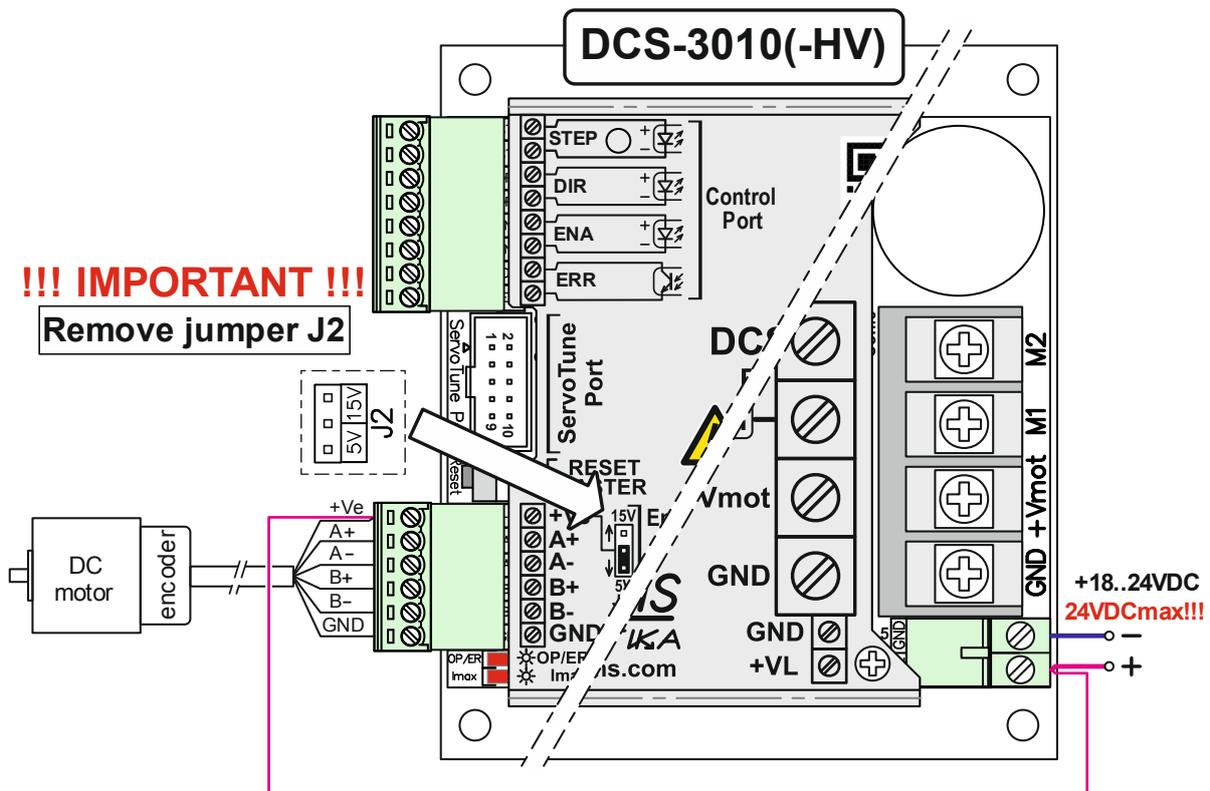

Figure 4.17 Connection of incremental encoder that requires a supply voltage higher than 15VDC
**IMPORTANT NOTE:** In case the incremental encoder is connected as shown in Figure 4.17, jumper J2 must be removed. Figure 4.16 gives the position of jumper J2. OTHERWISE, THE DCS1 DRIVER MAY BE PERMANENTLY DAMAGED. ALSO THE MAXIMUM SUPPLY VOLTAGE IN THIS CASE IS 24VDC. CHECK THE SPECIFICATIONS OF THE SPECIFIC INCREMENTAL ENCODER.